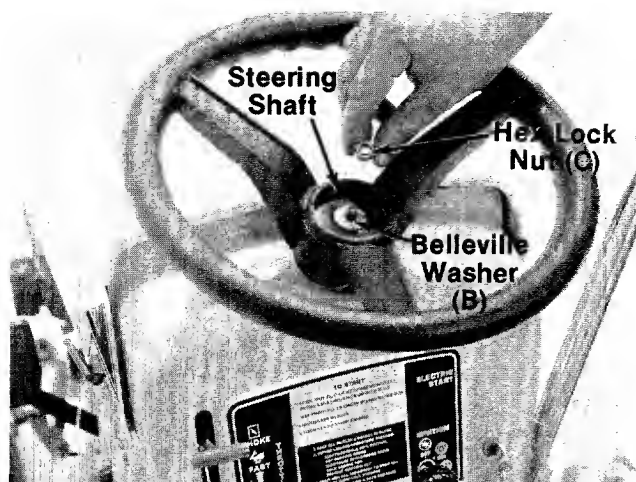

FIGURE 3.
3. Secure with belleville washer (B) and hex lock nut (C). See figure 3.